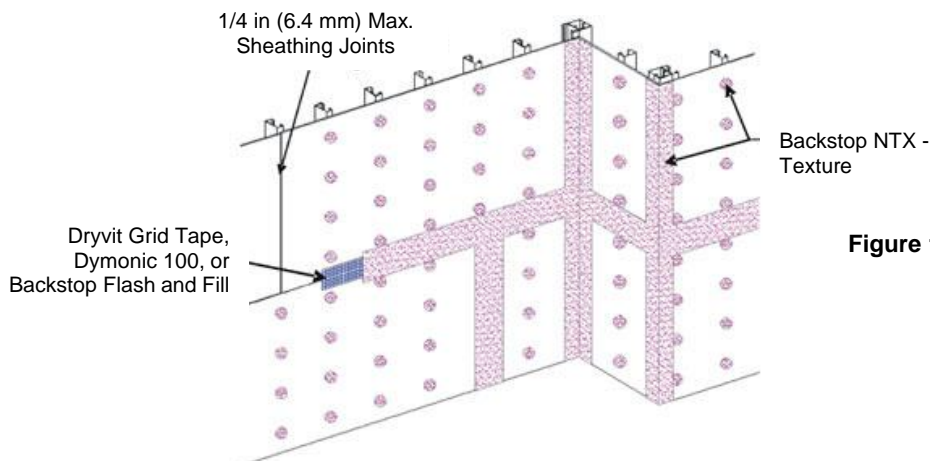

Figure 1
- 1) Apply Dryvit Grid Tape as described in Section IV.E.1 above. Mix the Backstop NTX Texture material as described in Section I. Using a stainless steel trowel or spatula, apply a layer of Backstop NTX Texture over the Dryvit Grid Tape and spot all fastener heads – Figure 1.